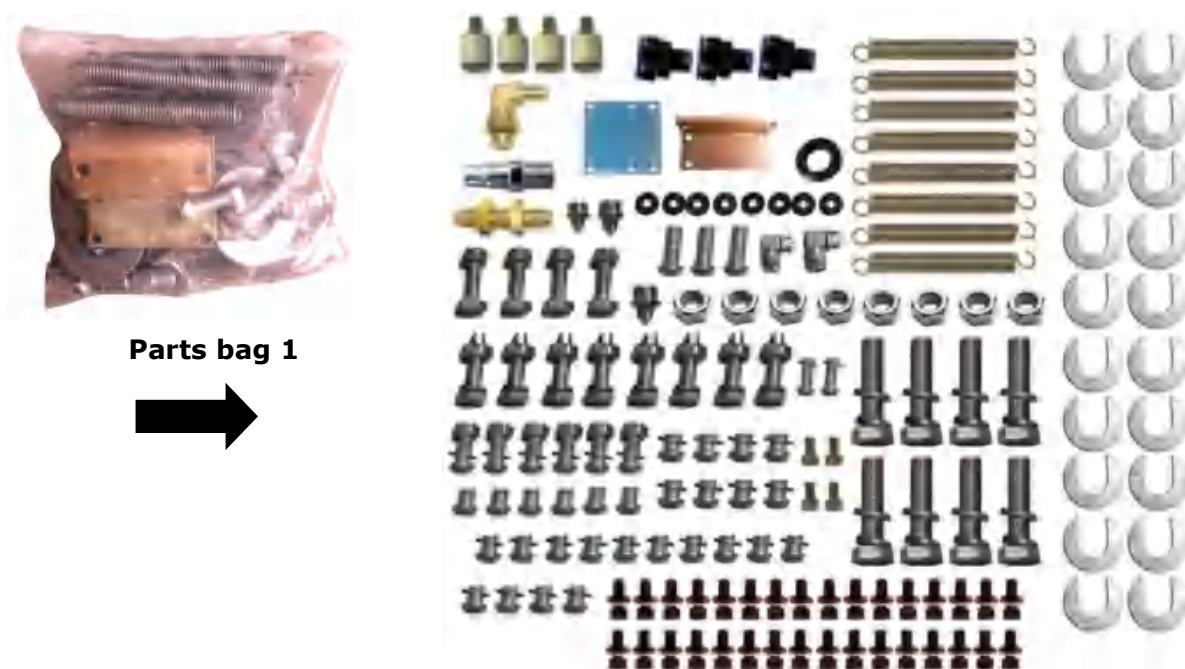

Fig.10
7. Check the Parts bag according to the parts bag list (**See Fig. 10**).